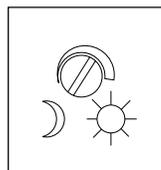

fig 16
- LUX - turn fully clockwise to max. (see fig 16)